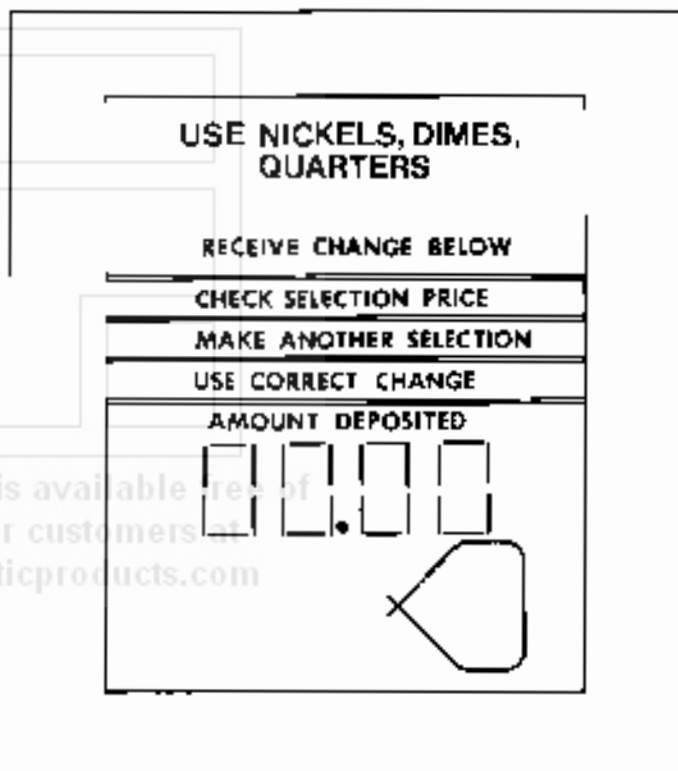

Figure 14.
- B. Press button 11 on the selection panel and the display will show "00.00" (Figure 14) along with three audible beeps will be heard. This is the price display and can be incremented up by pressing button 11 and down by pressing button 12. Increments are 5¢ and each increase will produce one audible beep.
B. Press button 11 on the selection panel and the display will show '00.00' (Figure 14) along with three audible beeps will be heard. This is the price display and can be incremented up by pressing button 11 and down by pressing button 12. Increments are 5¢ and each increase will produce one audible beep.